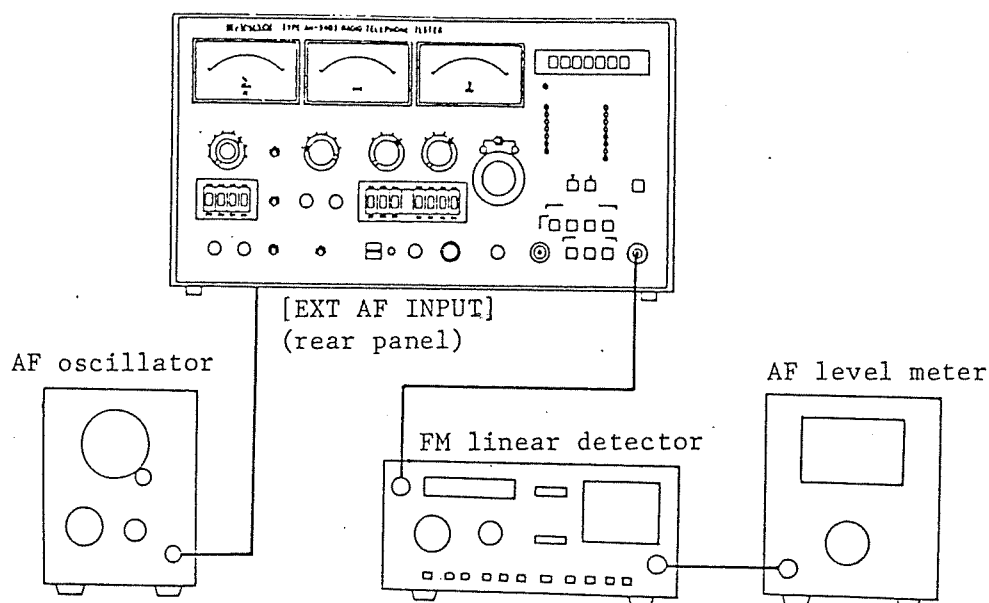

Fig. 3-9 Signal to noise ratio test
- (1) Connect an FM linear detector to the [RF INPUT/OUTPUT 50 Ω MAX. 50 Ω] connector of this apparatus as shown in Fig. 3-9. Also, connect an AF oscillator to the [EXT AF INPUT] terminal located on the rear panel of the apparatus.
- (2) Set the controls of this apparatus as follows: